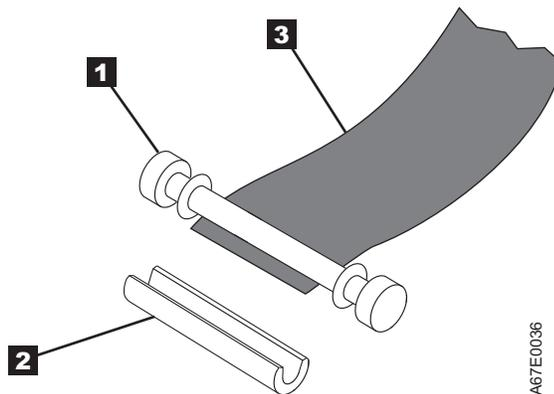

Figure 6-14. Removing the C-clip from the leader pin. Use your fingers to push the C-clip from the leader pin.
5. On the leader pin (**1** in Figure 6-14), locate the open side of the C-clip (**2**). The C-clip is a small black part that secures the tape (**3**) to the pin.